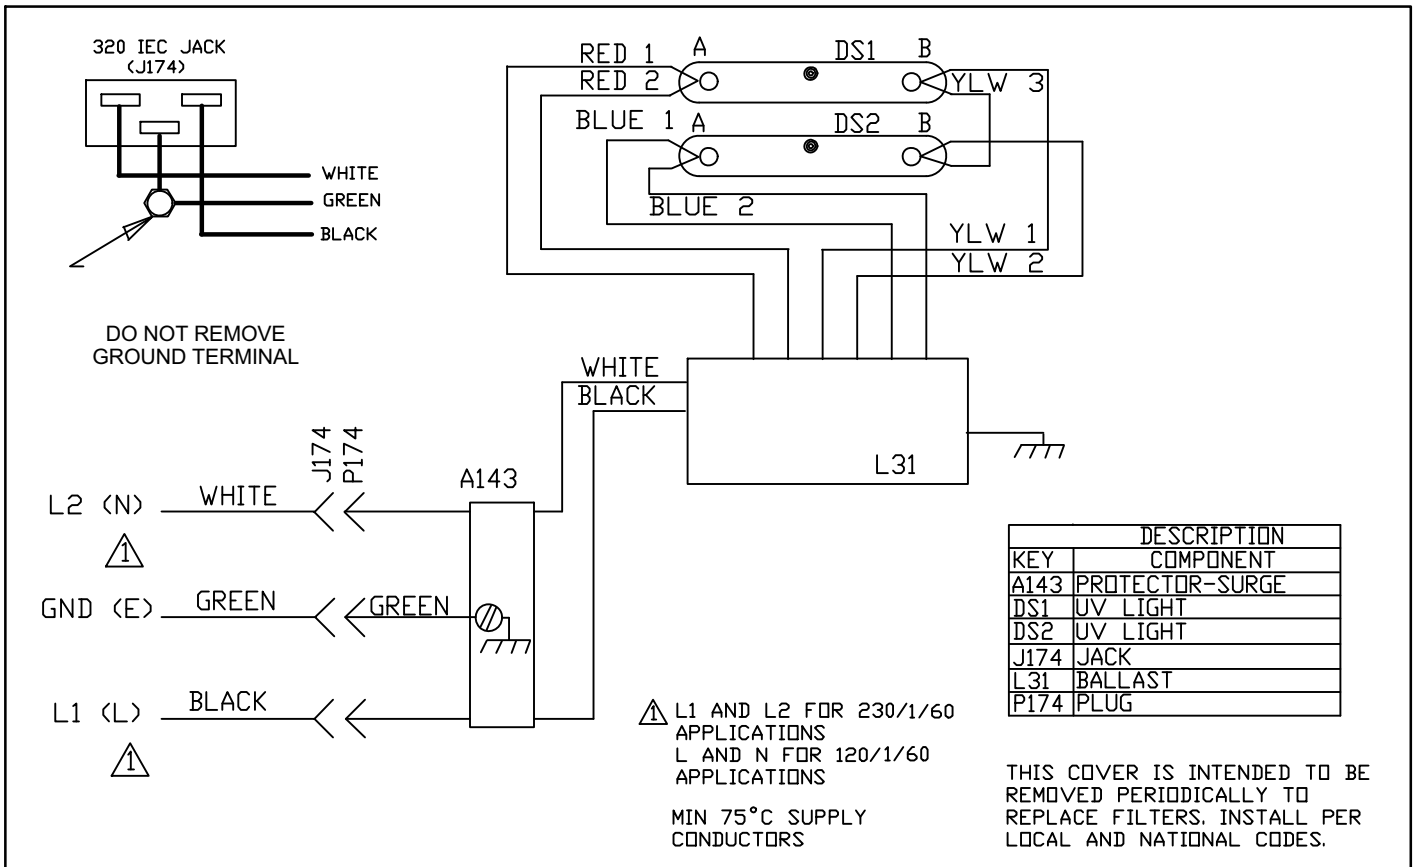

Figure 3. Wiring Diagram
4. Connect the field wires per figure 3 to the provided wires. Installation must conform with all local and national codes. Unit may be wired for 120VAC or 230VAC single- phase, 60Hz operation without any changes to internal components or wiring. Use minimum 75°C supply conductors